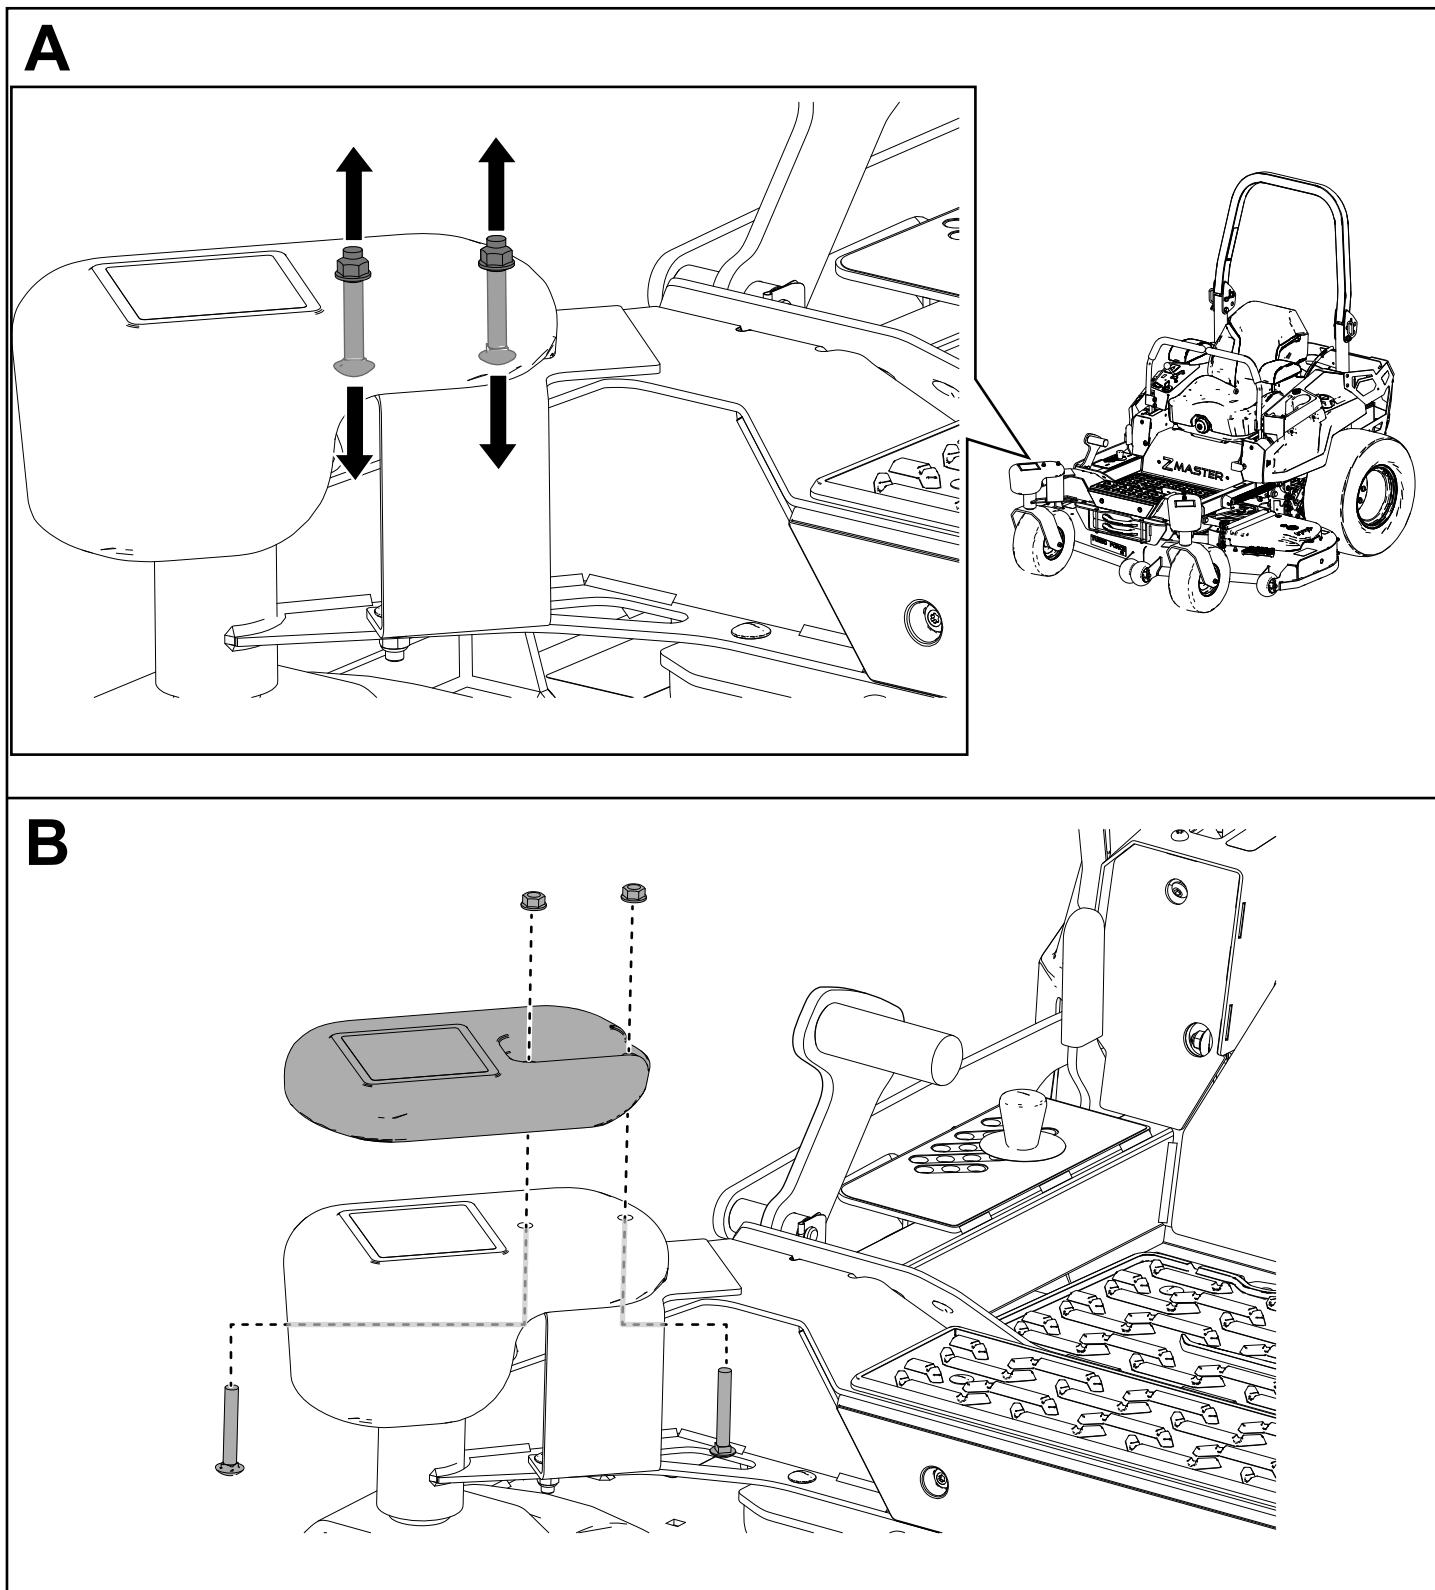

Figure 7
1. Remove the existing 2 carriage bolts and 2 nuts from the top of the caster weight (Figure 7). Discard the 2 carriage bolts and 2 nuts.
2. Secure the 12.5 lb weight plate to the caster weight and bracket using the 2 carriage bolts (3/8 x 2-1/2 inches) and 2 hex-socket flange nuts (3/8 inch) as shown in Figure 7.